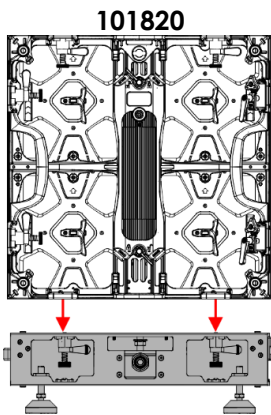

Fig. 27
02) Put the LED screen on top of the rigging bar, so that the **fast-lock openings (11)** on the bottom of the LED screen fit in the fast-locks of the rigging bar, as shown in Fig. 27 and 28.